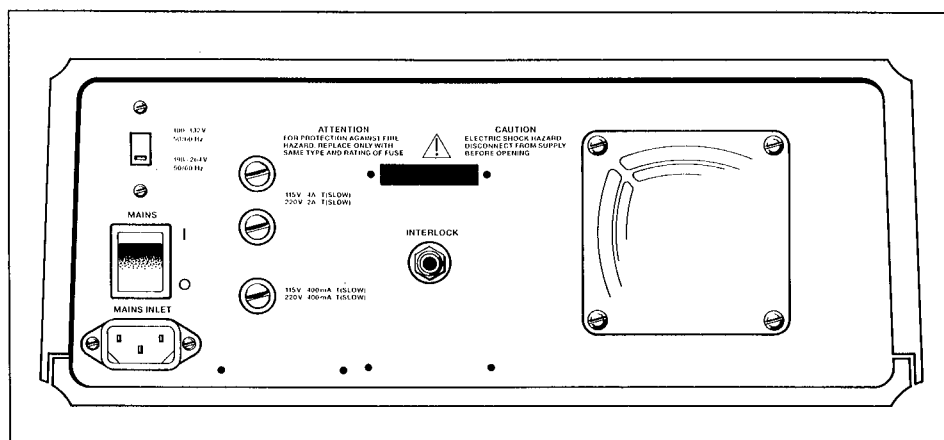

Fig. 1 Rear view of the MultiDrive XL Power Supply unit.
1. Check the voltage setting of the Power Supply as shown by the switch located at the top left corner of the rear panel. When the switch is in the upper position the unit is set for operation at between 100-132 V, when the switch is in the lower position the unit is set for operation at between 198-264 V. Refer to Figure 1 showing the rear panel of the MultiDrive XL.
3. Insert the two 2 or 4 A fuses in the top and middle fuse holder respectively and then screw them carefully into position. Insert either the 200 mA or 400 mA fuse into the bottom fuse holder and then screw it carefully into position. Refer to Figure 1.